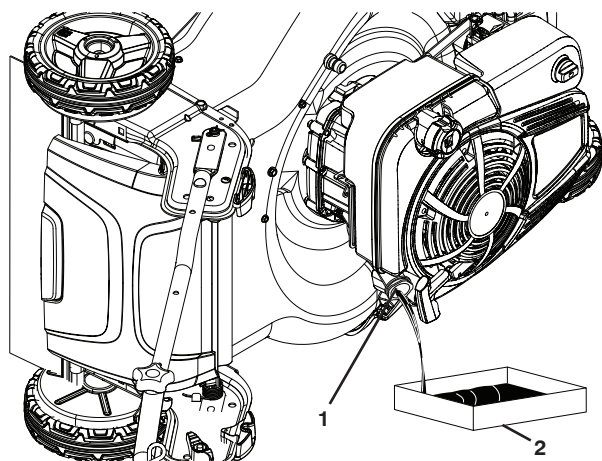

Figure 23
3. Tip lawn mower on its side as shown and drain oil into a suitable container. Rock lawn mower back and forth to remove any oil trapped inside of engine (Figure 23).